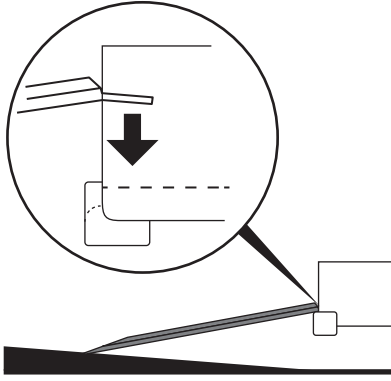

Figure 3-11
4. Place the ramp fingers or plate edges on the edge of the trailer or truck bed. See Figure 3-11.